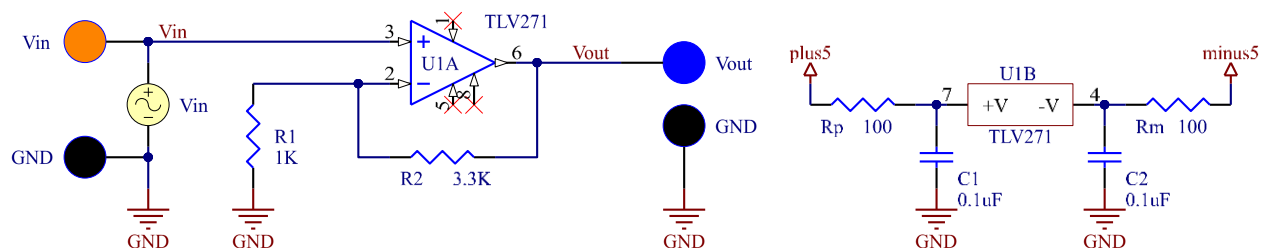
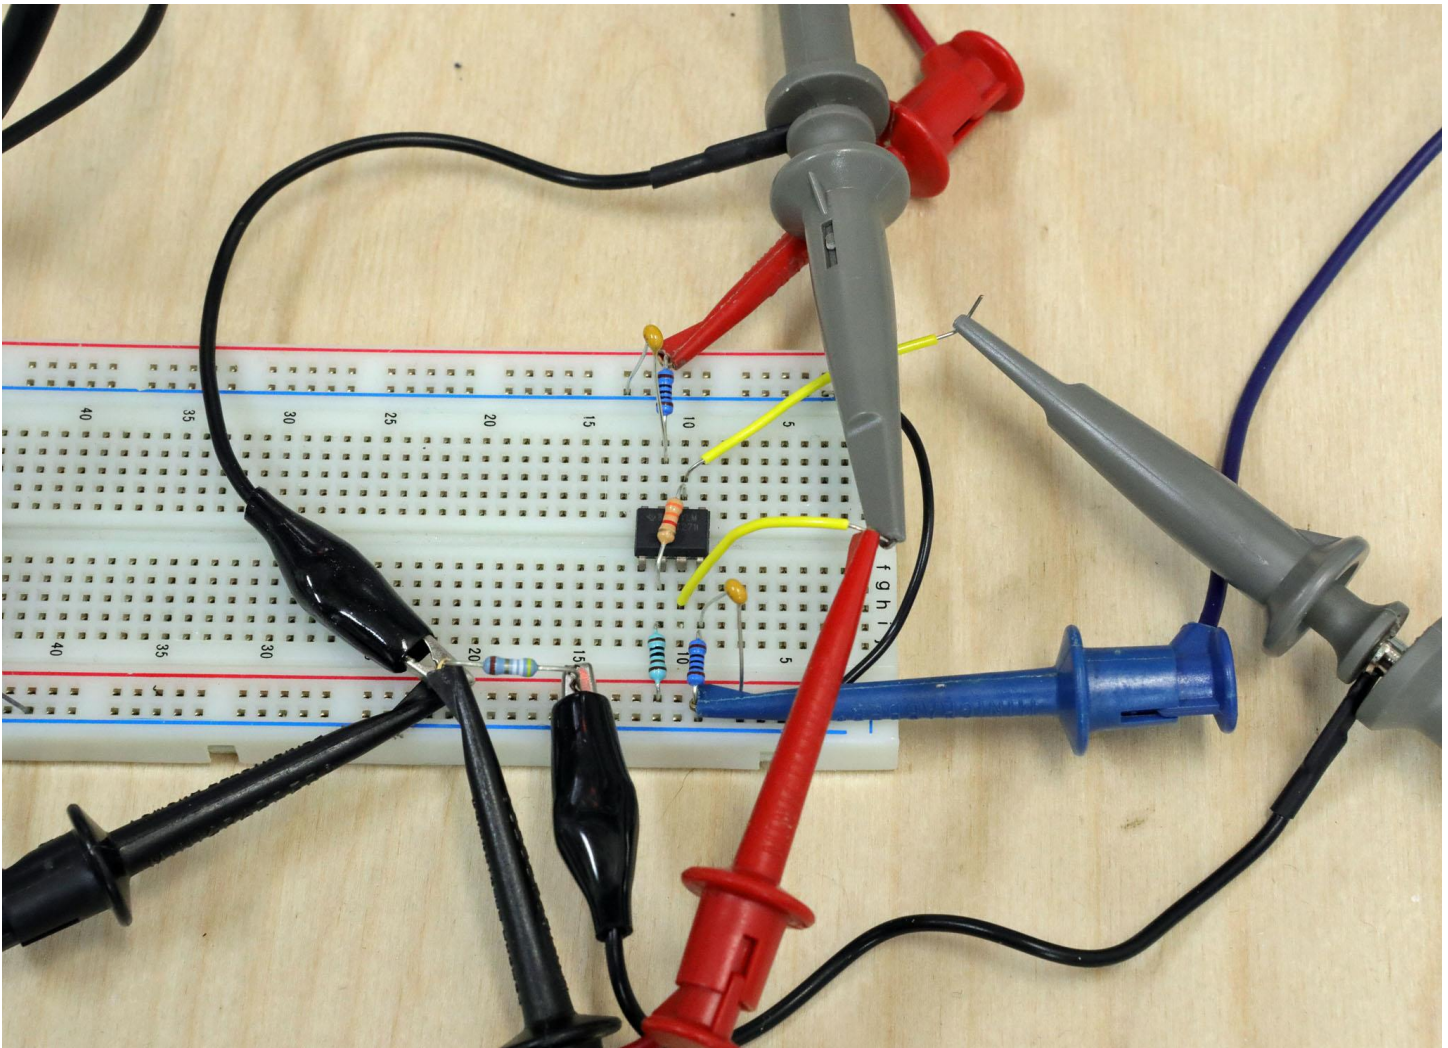
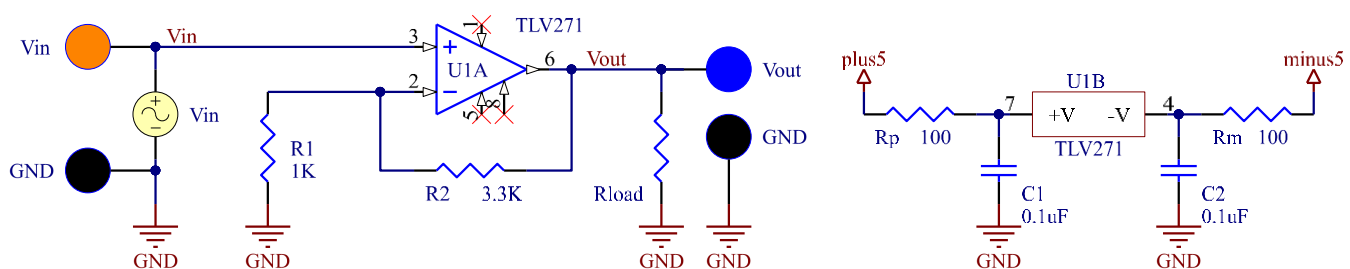
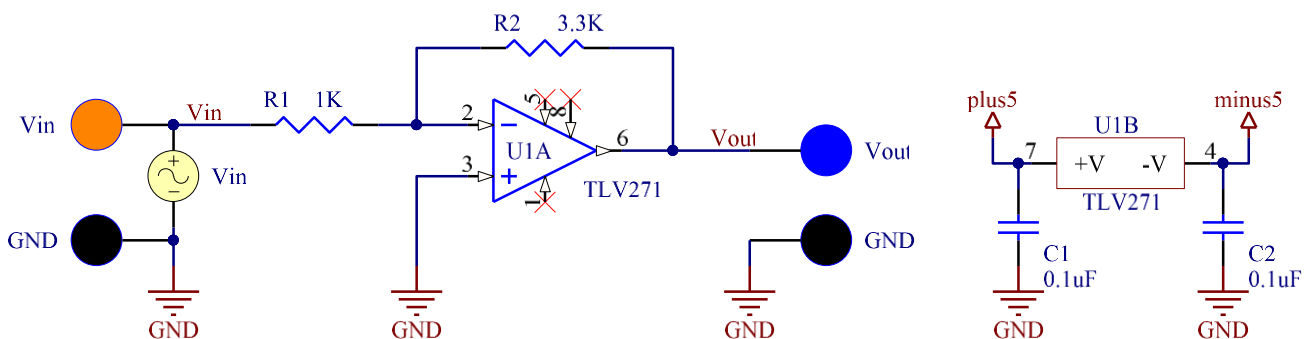

Figure 1: Schematic of a non-inverting amplifier
Figure 2: Non-Inverting Amp with Gain Prototype Example.
Figure 4: Non-inverting amplifier with gain and variable load resistor.
Figure 6: Inverting amplifier with low gain.
1. Assemble the circuit shown in Fig. 1 on a breadboard. This is a non-inverting amplifier circuit as described in the theory section. Note the 8 pin op-amp is a single chip. The op-amp consists of the power supply connection and the op-amp connections. They are shown as separate blocks on the schematic. They are on the same chip. Also pins 1, 5 and 8 have small X's on them. This means those pins are not connected to anything.
Use the picture in figure 2 as a construction guide. It is just a guide don't consider it as the only way you can make it. The schematic in Figure 1 is the real circuit. This is not the only way to connect your circuit up on the proto board. It is however the recommended way to minimize errors. The errors will slow down the completion of the lab so minimize them.
- In Fig 2: The +5 and -5 volt power supplies are the red and blue mini clips connected to the 100 ohm resistors on the buses near the outer edge of the breadboard. They are the vertical buses that run the whole length of the board. I use Red for +5V and Blue for -5 volts. The bus next to it is usually GND. The +5 and -5 come from the + and - 25V supplies set to 5V. Note if Tracking is turned on you will see that the -25V supply will automatically be set to -5V when the +25V supply is set to +5V. **IMPORTANT: The common of the power supply needs to be connected to the Ground on your breadboard.**
3. **Use the DMM** to measure V_{in} and V_{OUT} for the different DC V_{IN} voltages listed in Table 1 using the circuit shown in Fig. 1. Use the DMM on DC for these measurements. Remember you must set the Wav Gen to put out DC corresponding to the DC input voltages as you go.
- Qualitatively observe the output resistance of the op amp circuit shown in Fig. 4. This circuit is the same one in Figure 1 with the addition of a load resistor. Qualitative means: See if the output voltage changes when the load resistor changes. You will do this by measuring V_{OUT} with the scope.
- Voltage clipping limits: Set V_{IN} to a 3V_{PP}, 1KHz sine wave with no offset. Using the circuit shown in Fig. 1, observe V_{OUT} on the Scope. Use $R_{LOAD} = \infty\Omega$ (No Load) . You will use the **scope** to measure the flattened (clipped) voltage levels.
7. Output current limit: Use the circuit from the Figure 4. Use an R_{LOAD} of 100Ω .
8. **We are going to build a simple inverting amplifier with low gain.** The schematic is shown in Fig. 6. Determine the theoretical gain (Theory), V_{out}/V_{in} , of this circuit. $Gain_{LOW} =$ _____ -3.3 _____. Build this circuit on the breadboard. Since you got the circuit in Figs 1 and 4 running you can skip using the 100Ω current limiting resistors. They were there to prevent the destruction of the op-amp in case the circuit was built wrong. The assumption being you built it correctly and will this time too.